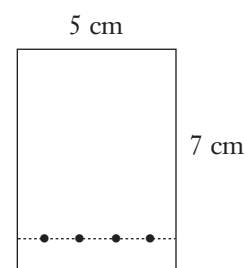

Figure 1.
5. Using a pencil, mark a series of four small dots at 1-cm intervals along the line on each TLC sheet (Figure 1).